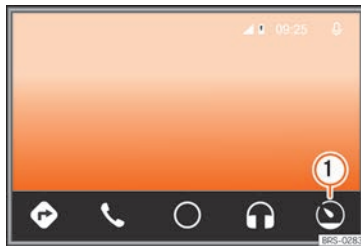

Fig. 188 Android Auto™ Menu
- On the Android Auto™ service press \ggg **Fig. 188 ①**.